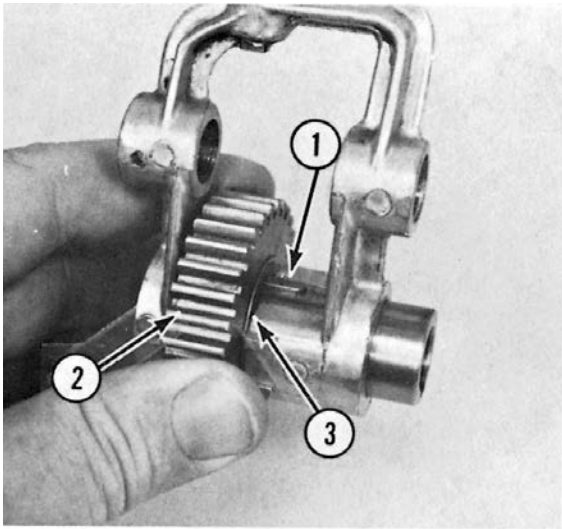

Fig. 3-21
- E. Rotate the gear until the key in the shifter sleeve is in line with the keyway in the retainer (Fig. 3-21).
- G. Remove the key (1, Fig. 3-21).
- I. Remove the 31T gear (2, Fig. 3-21) and the retainer (3, Fig. 3-21).